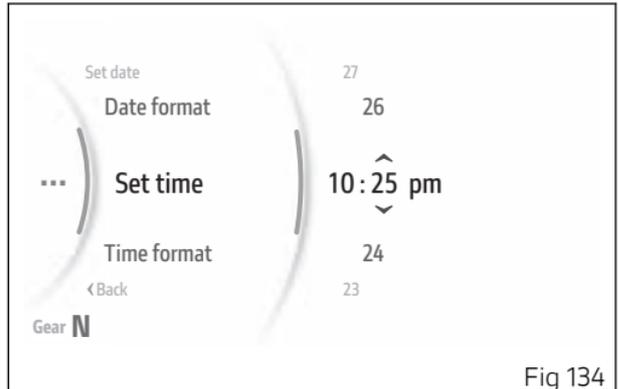

Fig 134
The arrows and available values appear for the number of minutes (Fig 134). Use buttons (1) and (2) to scroll and select the desired value. Press ENTER (3) to confirm and move on to the AM/PM selection.